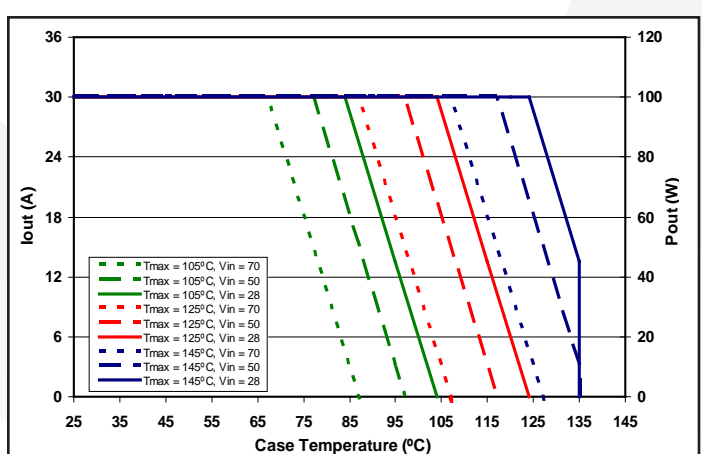

Figure 5: Output Current / Output Power derating curve as a function of  $T_{case}$  and the Maximum desired power MOSFET junction temperature (see Note 14).
2. Derate output power to 50% of rated power at Tcase = 135°C (see Figure 5).
**THERMAL CONSIDERATIONS:** Figure 5 shows the suggested Power Derating Curves for this converter as a function of the case temperature, input voltage and the maximum desired power MOSFET junction temperature. All other components within the converter are cooler than its hottest MOSFET.
The Mil-HDBK-1547A component derating guideline calls for a maximum component temperature of 105°C. Figure 5 therefore has one power derating curve that ensures this limit is maintained. It has been SynQor’s extensive experience that reliable long-term converter operation can be achieved with a maximum component temperature of 125°C. In extreme cases, a maximum temperature of 145°C is permissible, but not recommended for long-term operation where high reliability is required. Derating curves for these higher temperature limits are also included in Figure 5. The maximum case temperature at which the converter should be operated is 135°C.